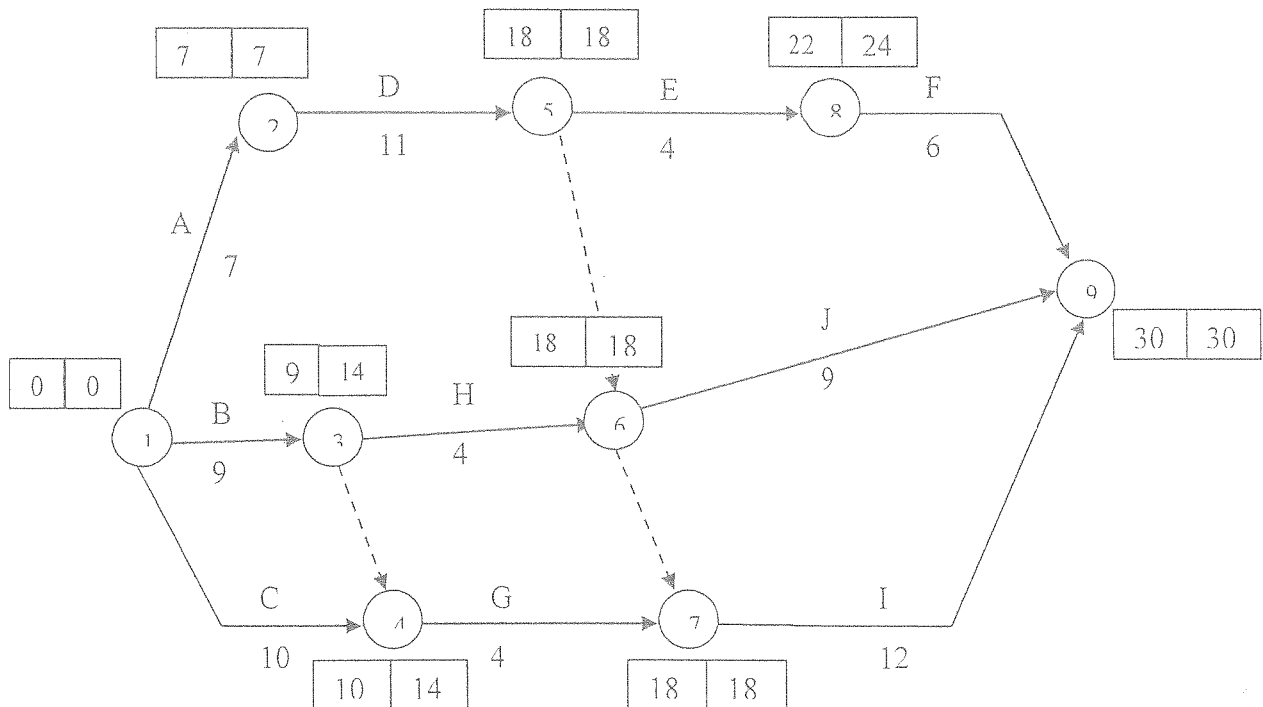

Figure Q1: Activity Relationships
- Table Q1 represents the planned time and cost for different activities of a project with possible crashing information. Figure Q1 represents the corresponding network diagram. Carry out the crashing procedure using minimum cost slope method. You are required to do crashing only for three stages. Assume an indirect cost of Rs. 90.00/week.